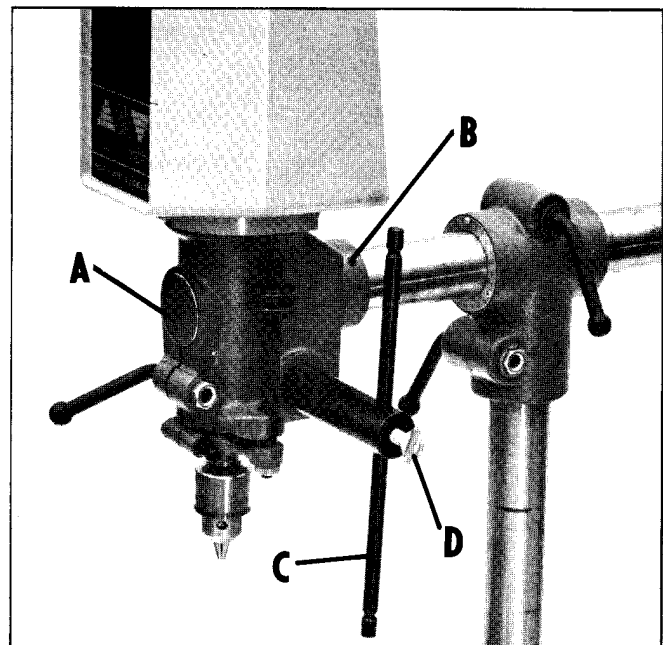

Fig. 4
6. Place the drill press head (A) Fig. 4, on the front end of the horizontal column and fasten in place by tightening two screws, one of which is shown at (B) Fig. 4.
7. Assemble the pinion shaft feed handle (C) to the pinion shaft, as shown in Fig. 4, and fasten in place with wing screw (D).